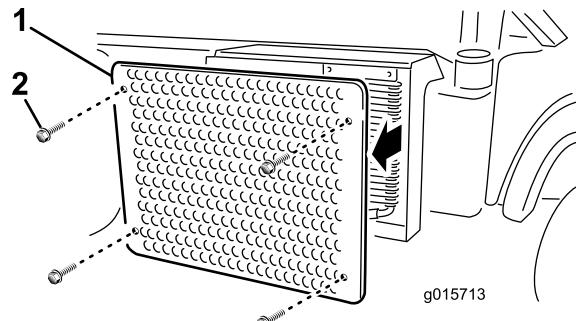

Figure 52
- Remove the (5) bolts securing radiator screen/guard to the radiator. The guard is not shown in the figure. (Figure 52). Remove the screen/guard.